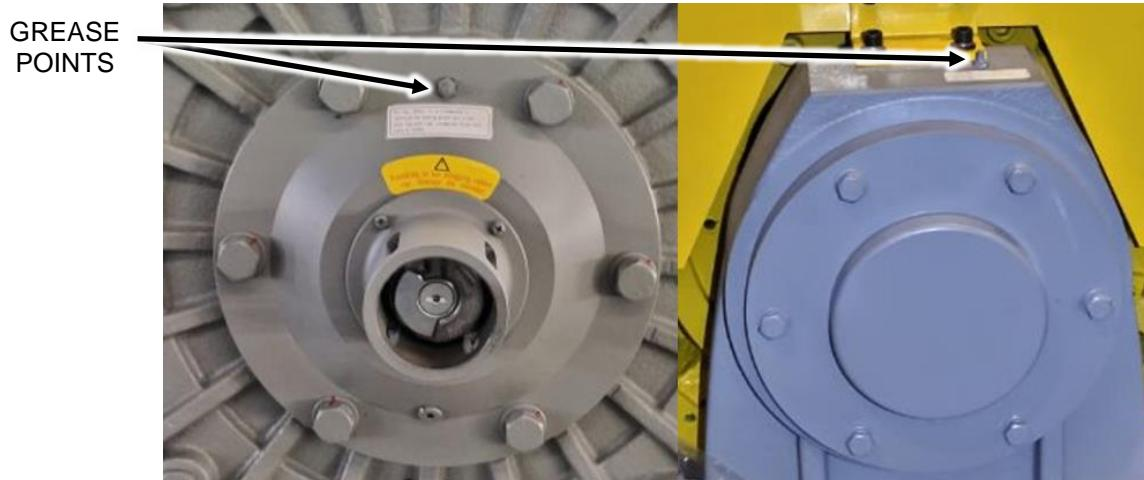

Figure 14
2. The grease point is opposite the relief plug. Figure 14.